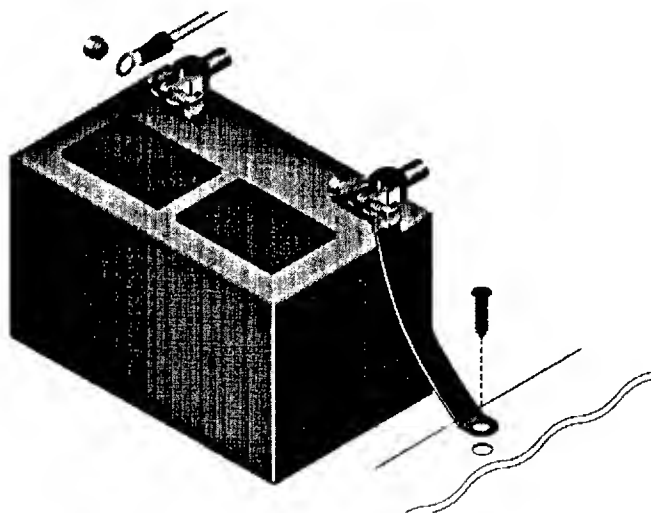

Fig. 17. Connecting the amplifier (+) power wire to the vehicle's battery.
2. Replace the negative (-) battery-to-chassis lead with a new 1" ground strap. Make sure the connections are clean and secure. Keep the original engine-to-chassis ground connection intact (refer to Fig. 17 on page 22).
17. Trim the (red) power wire so it meets the + battery post. Splice a ring terminal on the bare end and fasten the lug onto the post, as shown in Fig. 17. **MAKE SURE A FUSE IS INSERTED WITHIN 12" OF THE BATTERY CONNECTION.**